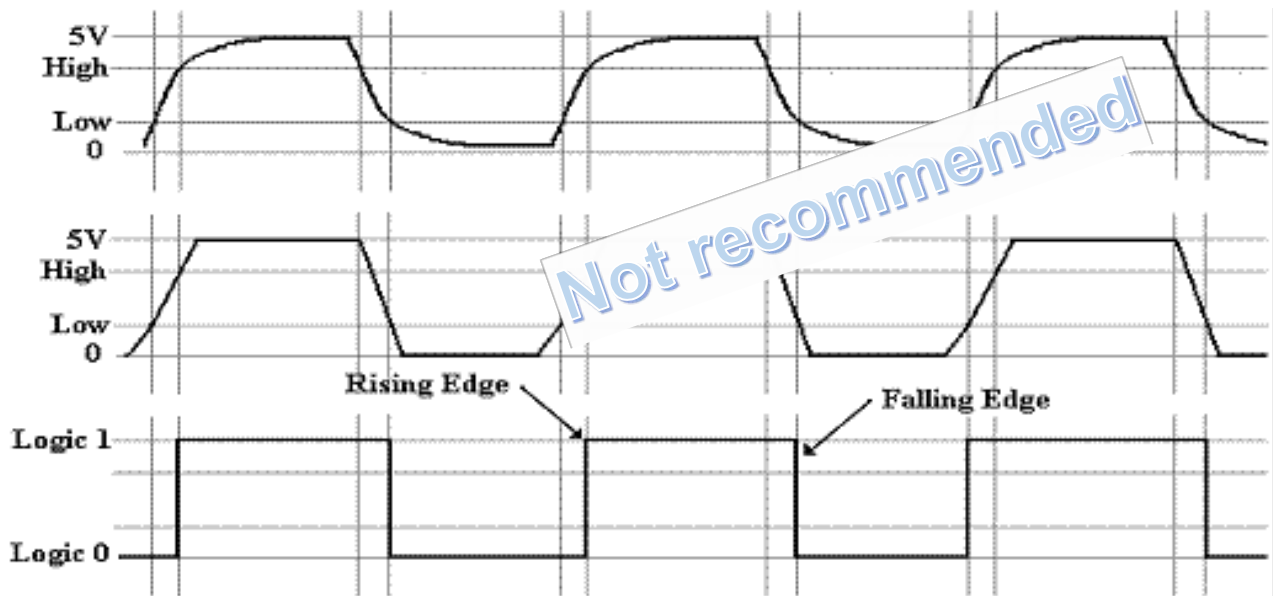

Figure 5 – Two waveforms with long transition times versus the rectangular wave
As shown in Figure 5, digital inputs typically have their LOW logic level at zero volts DC and their HIGH logic level limited to the supply voltage used with the logic device (typically 5 VDC as seen in last week's lab).
2.3. This circuit consists of one IC (7476) and uses the Logic trainer for the remaining circuit elements. The circuit in Figure 5 consists of five blocks that will be wired together to create the digital circuit. At this point, the internal workings of the five block is not important. Each block has either inputs, outputs and/or both and these will be electrically connected with wires to form the working circuit.
along with the circuit diagram in Figure 5 to complete the circuit build.